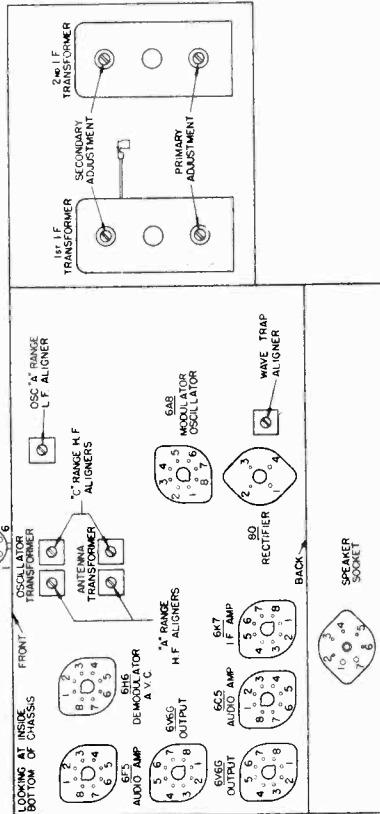

Fig. 1. Terminal Layout for Voltage Measurement Chart and Location of the Aligning Capacitors.
In making any alignment adjustments, always adjust the test oscillator's output voltage to the minimum value where a good alignment may still be obtained. Never attempt to make any alignment adjustments using a strong signal. Before proceeding with the alignment of any circuits in these receivers be sure that the "Off-On" control knob is set for maximum treble response (position where knob is rotated from its maximum counterclockwise position where set turns on), and that the slotted shaft of the electric tuning set-up switch (located on the top of the chassis) is in the "Set-Up" position. When the aligning adjustments have been completed the slotted shaft of the electric tuning set-up switch should be rotated so that the slot points in the direction of the word, "Operate". Figure 1, shows the location of all the aligning capacitors in these receivers.
3. Now, noting from Figure 1, the aligning capacitors for the first and second I. F. transformers, align the I. F. circuits in the following manner: